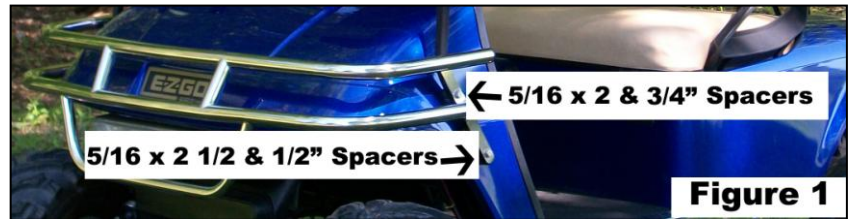

Figure 1
2. If you do not have a top use the supplied 5/16 x 2 1/2" bolts, washers and 1/2" spacers to mount the bottom of the brush guard to the stock roof mount holes as shown in Figure 1. If you do have a top on your car use the stock bolts and washer spacers and mount the brush guard to the outside of the roof mount and to the bottom stock roof mounting holes.
3. If you do not have a top use the supplied 5/16 x 2" bolts, washers, & 3/4" spacers, mount the top of the brush guard mounts to the stock roof mount holes as shown in Figure 1. If you do have a top on your car use the stock bolts and spacers and mount the brush guard to the outside of the roof struts and to the stock roof mounting holes.